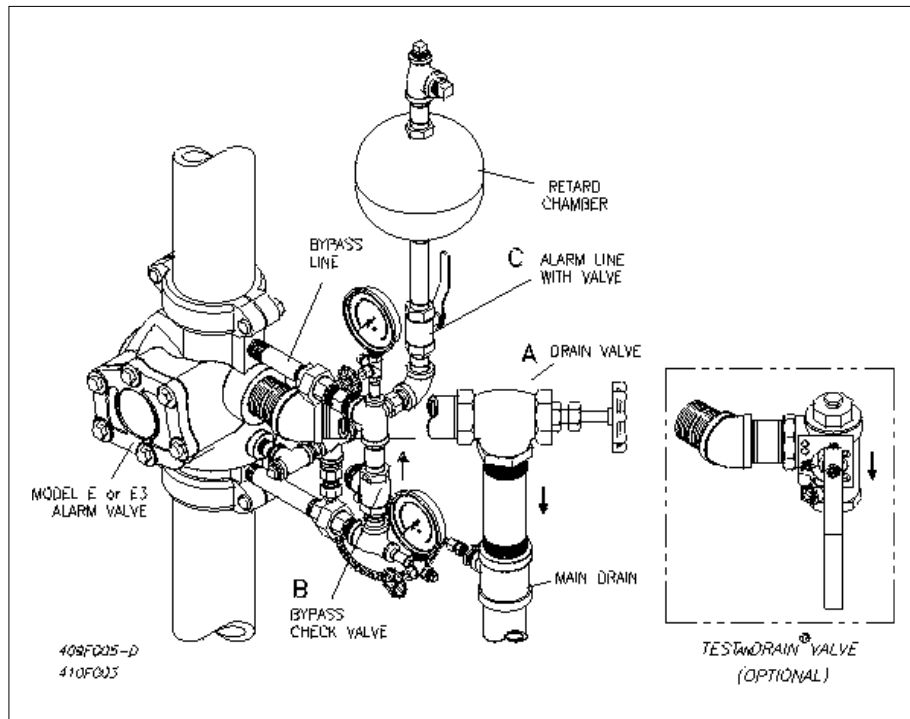

Fig. 3 E3 Vertical Trim
Water now flows through the uncovered groove and alarm line into the retard chamber. Once the retard chamber is filled the water flow activates the mechanical and electrical alarms (Figs. 3 & 4).
- The by-pass connection with check valve (Figs. 3 & 4) allows pressure surges from the supply to by-pass the alarm valve clapper. An excess system pressure is thus created which steadies the clapper. Should a heavy surge unseat the clapper and permit water to flow into the alarm line, the retarding chamber then comes into action.
The basic trims for the Reliable Model E3 High Pressure Alarm Valve (Figs. 3 & 4), are arranged for rapid, easy and compact attachment, and serve as connection points to Reliable alarm and other devices. They also act as a means for testing the operation of the alarm devices without causing the system to operate. The Model E3 high pressure alarm valves are available in two trims and may be installed in the vertical or horizontal position in the main supply to the wet pipe system:
- A Test_{AND}Drain valve segment is optional, to be purchased separately, as a replacement to the valve (Figs. 3 & 4).